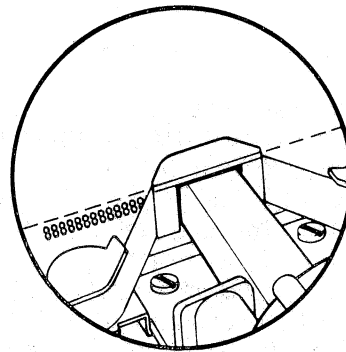

Figure 5-3. (Reference) Printhead Positioning (Below) to Set Form Length
4. Align paper using **FORM ADV**, **LINE FEED**, **↑**, and **↓**. Paper alignment may be checked by typing some characters as illustrated in Figure 5-3.
4. Align paper using **FORM ADV**, **LINE FEED**, **↑**, and **↓** special function keys. Paper alignment may be checked by typing some characters (as illustrated in Figure 5-3).
2. Align the printhead to the first line under the perforation. With **FORM ADV**, **↑** and **↓**, and **LINE FEED**. This may be verified by typing a character on the keyboard, as illustrated in Figure 5-3.